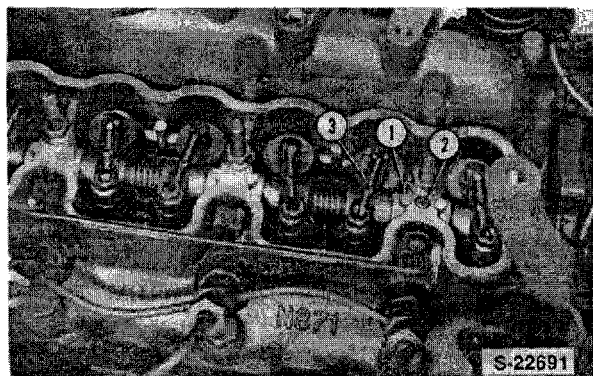

Figure 10
3. Remove the valve rocker cover, Figure 10.